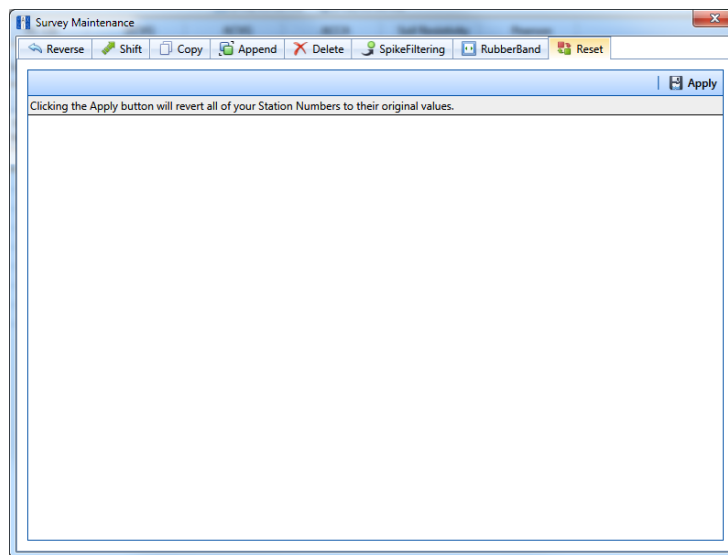

Figure 6-63. Reset
- 5 Click  **Survey Maintenance** to open the *Survey Maintenance* dialog box. Then click  **Reset** (Figure 6-63).